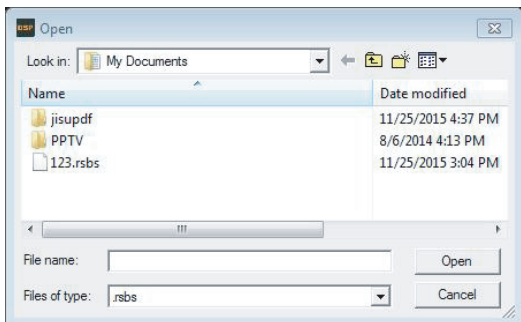

Figure 3.4.7
Step 2: Click "Load PC preset File" after entry window will pop open file dialog box (Figure 3.4.7).